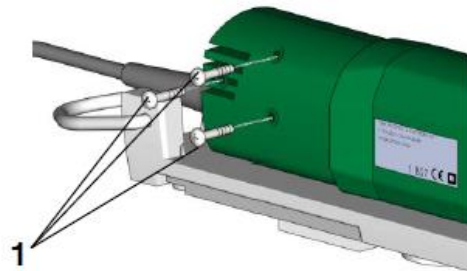

Fig. 14 Carbon brush replacement MB 20/2 and MB 20/3 (1)
- Release 3 screws (1) on the housing and remove the two half shells (Fig. 14).